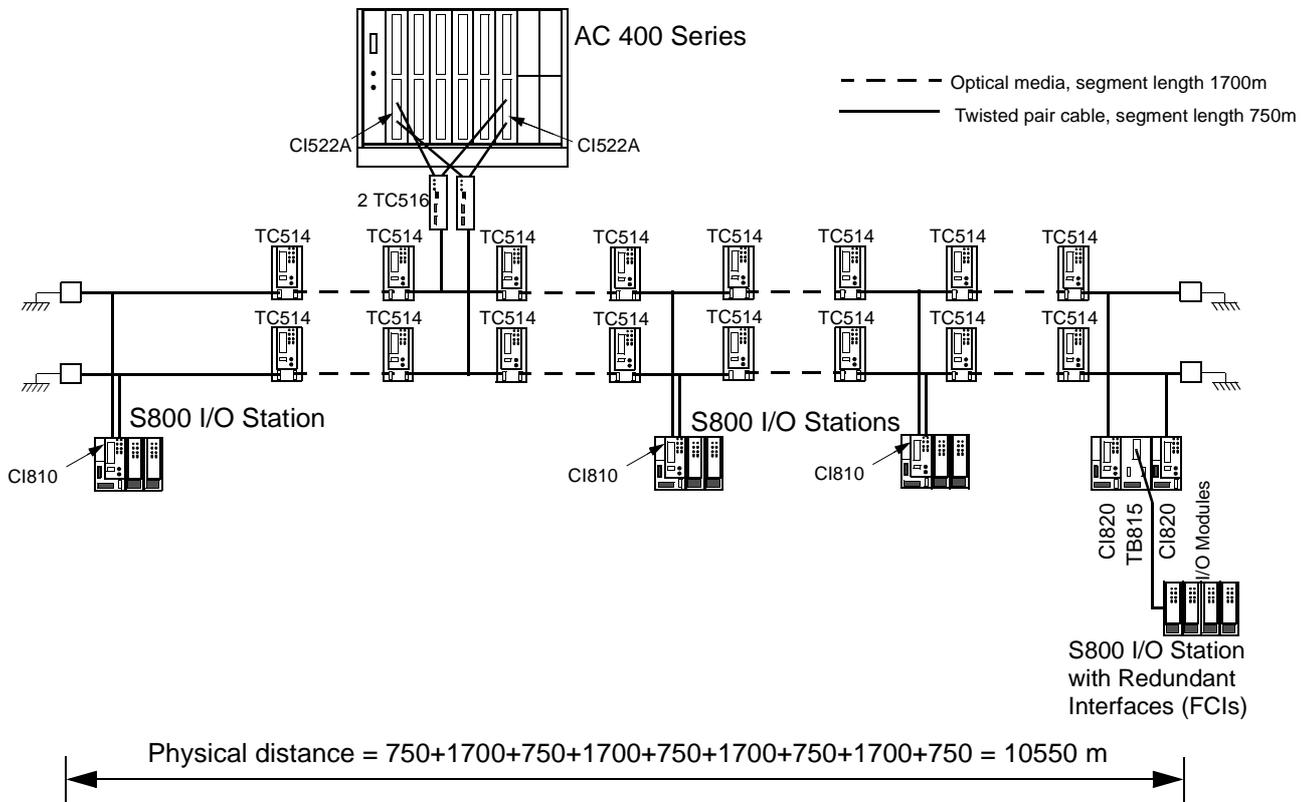

Figure 1-4. An example of using the Advant Fieldbus 100 length concept for 15000 meter.
3.7, Performance and Bus Load for calculation of performance and bus load. An example of a network using a long Advant Fieldbus 100 is showed in Figure 1-4.
In order to make Figure 1-4 clear the necessary terminations and groundings are not completely shown in the figure.